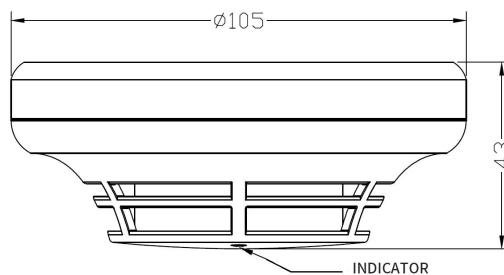
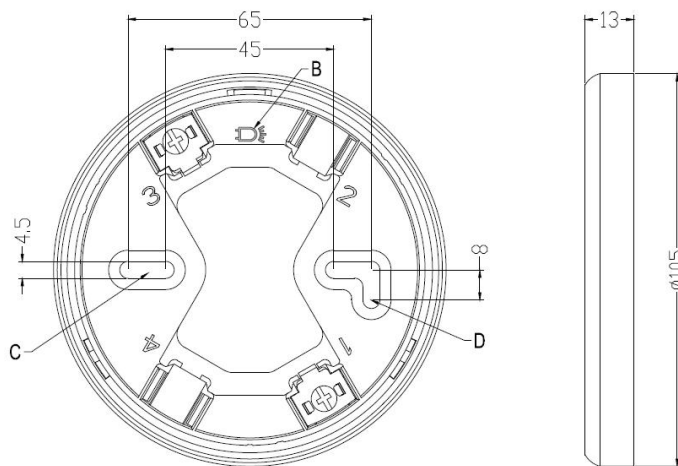

Fig.1 (Unit: mm)
Fig.5
4 Product Appearance and Size (see Fig.1)
The installation of the detector requires the use of a supporting base, shown in Fig.5. The external dimension is 105mm × 13mm (diameter × thickness), the fixed hole diameter is 4.5mm, and the spacing of fixed holes is 45mm ~ 65mm.
- Use two M4 screws to fix the matched mounting base on the designated position via the mounting holes C and D shown in Fig.5, as instructed in the construction drawing and make sure the matched mounting base has been firmly installed.
- Align the indicator light at detector A (as shown in Fig.1) with the pattern at base B (as shown in Fig.5), and then insert the detector into the base, turn the detector clockwise until the detector is locked in place;